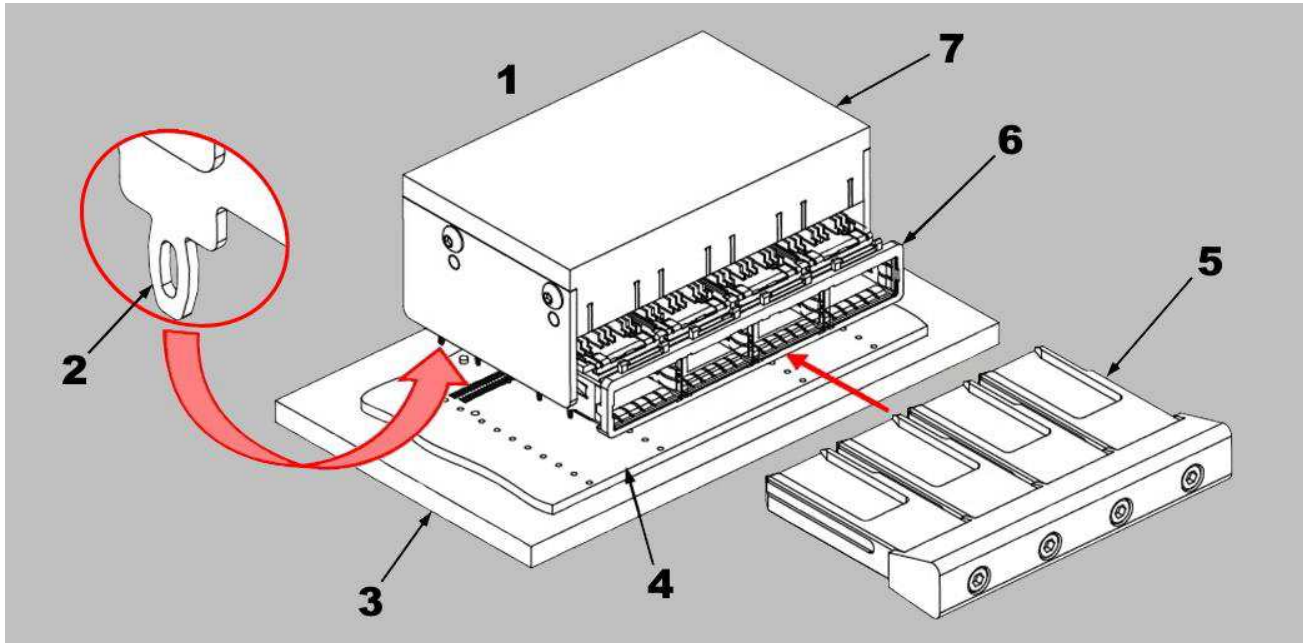

Figure 1: zSFP+ Cage Assembly Seating Tool 2185256-[]
The zSFP+ cage assembly seating tool shown in Figure 1 is used to seat the cage assembly onto the printed circuit (PC) board. The cage assembly contains compliant pin contacts to allow solderless PC board installation.